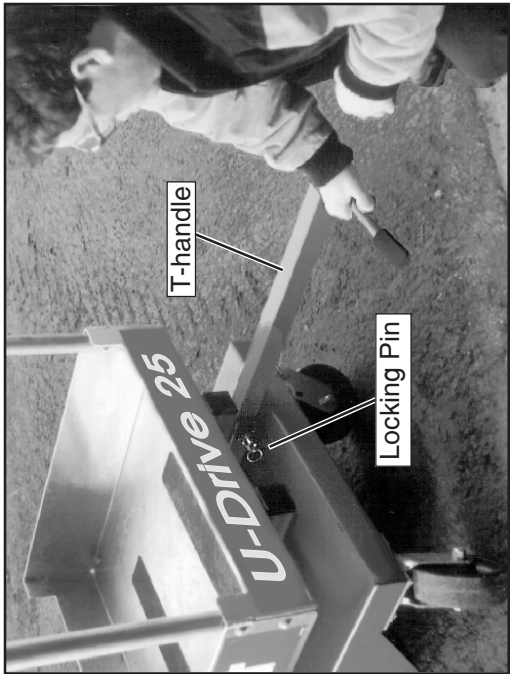

Figure 8: Handle positioning
6. Release the locking pin and pull the handle out until the locking pin engages the hole in the end of the handle (Figure 8).